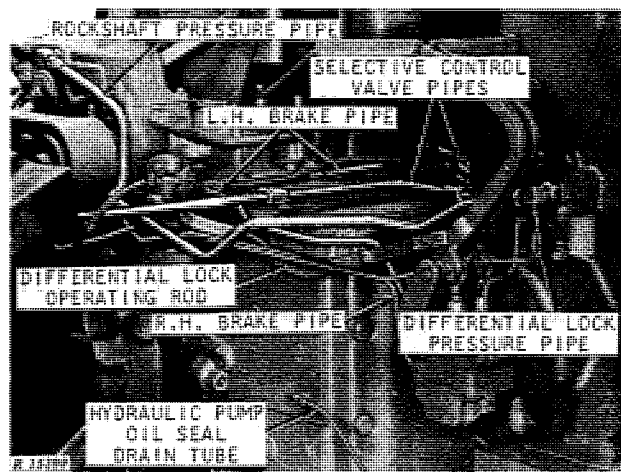

Fig. 12—Hydraulic Pipes
7. Disconnect differential lock operating rod, right- and left-hand brake pipes, rockshaft pressure pipe, and differential lock pressure pipe (Fig. 12).